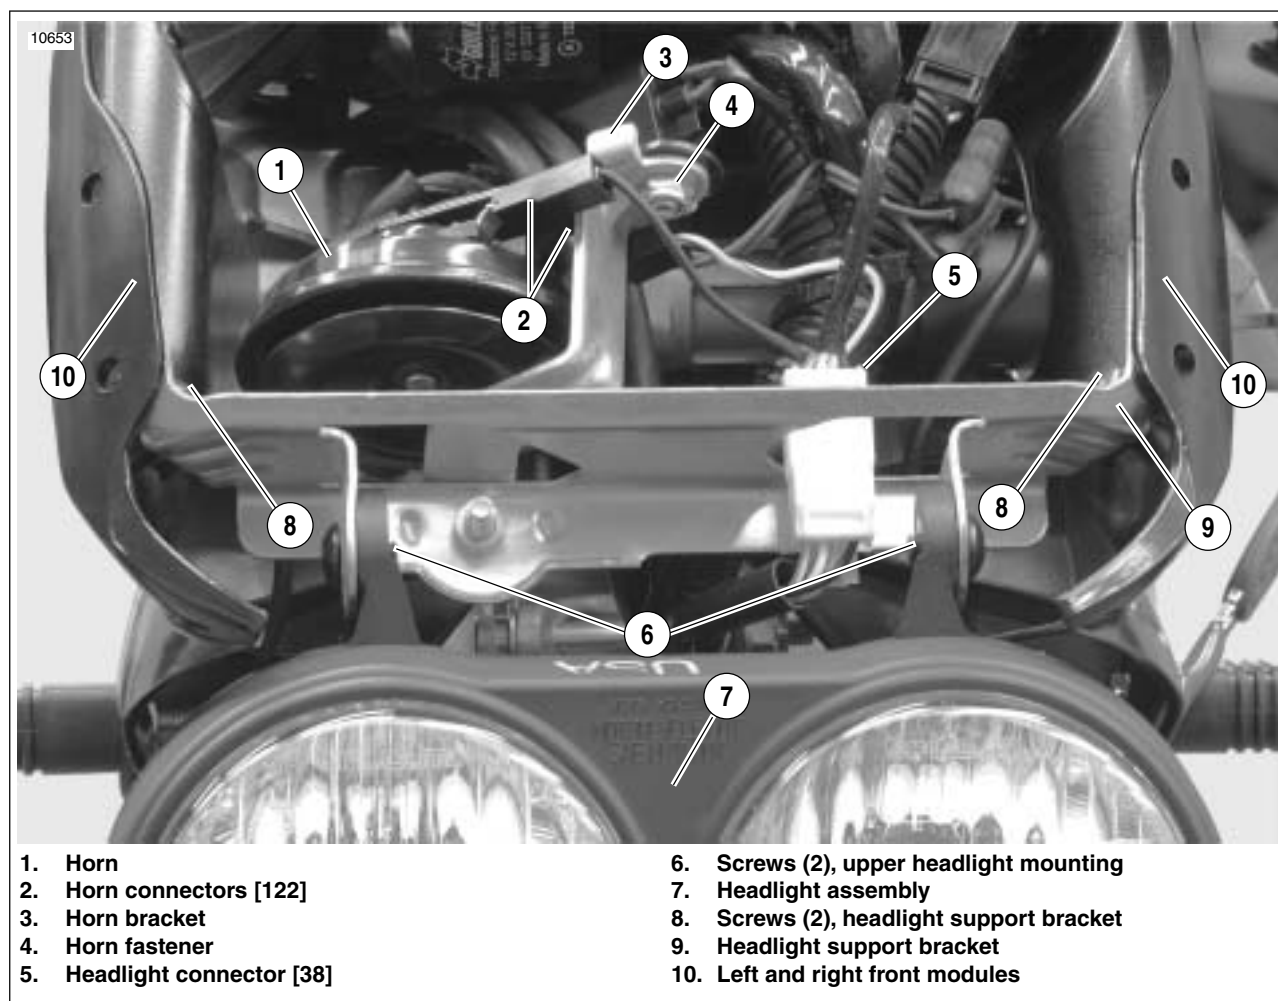

Figure 2-105. Headlight Assembly and Support Bracket
1. See Figure 2-105. Install headlight support bracket (9).
2. Install fasteners (8) securing headlight support bracket to left and right front modules (10) and tighten to 48-72 in-lbs (5.4-8.1 Nm).
- a. Install headlight assembly (7) into headlight support bracket (9).
- b. Install both upper headlight fasteners (6) but do not tighten.
5. Connect headlight connector [38] (5).
6. Install horn (1) and tighten fastener (4) to 72-96 in-lbs (8.1-10.8 Nm).
7. Connect horn connectors [122] (2).